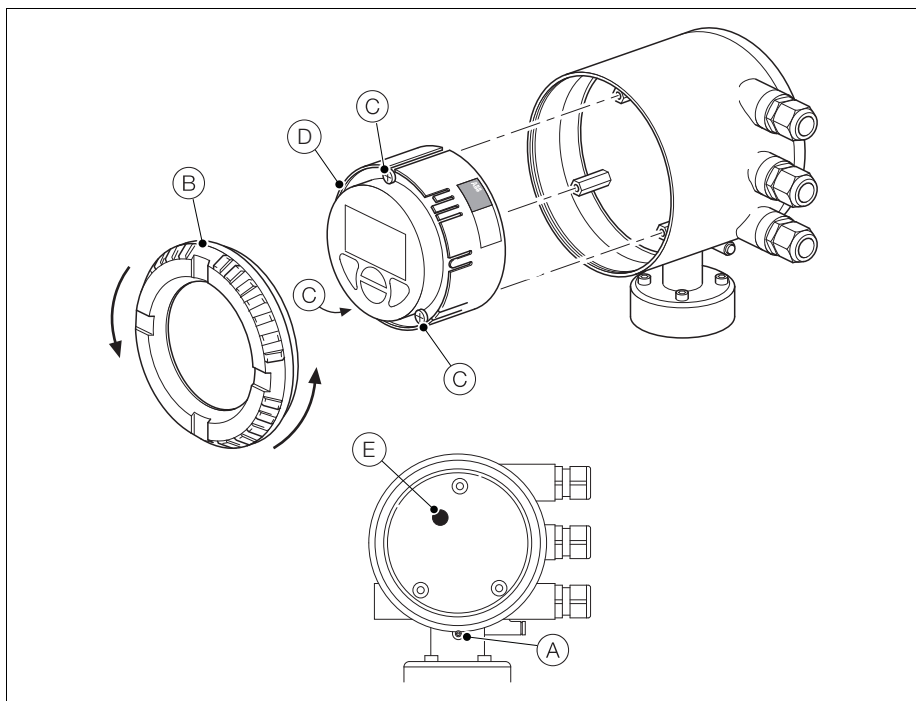

Fig. 4.14 Integral Transmitter – Replacing the Internal Fuse
2. Referring to Fig. 4.14, screw in security screw (A).
3. Unscrew and remove lid (B).
4. Slacken the three cartridge screws (C) and lift the cartridge D away from the housing.